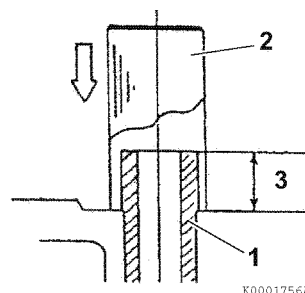

Figure 6-66
3. Finish installing the valve guides (1, **Figure 6-66**) into the cylinder head to the proper height (3, **Figure 6-66**) using the valve guide installation tool (2, **Figure 6-66**). See *Intake/Exhaust Valve and Guide* on page 6-5.